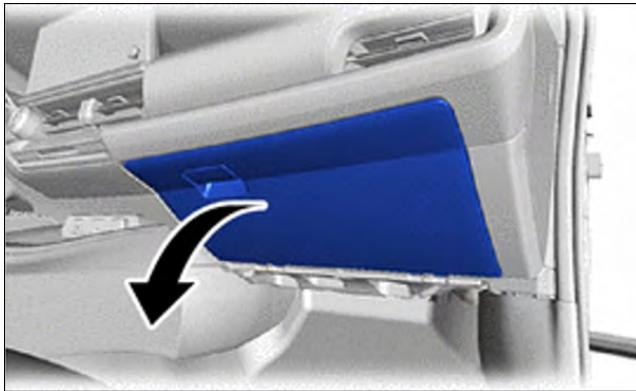

Figure 11
- (a) Open the glovebox, as shown in Figure 11.